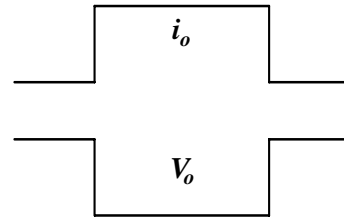
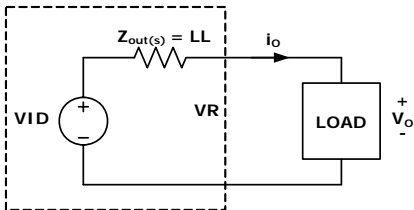

FIGURE 14. DESIRED LOAD TRANSIENT RESPONSE WAVEFORMS
FIGURE 20. VOLTAGE REGULATOR EQUIVALENT
Assuming the compensator design is correct, Figure 14 shows the expected load transient response waveforms if C_n is correctly selected. When the load current I_{core} has a square change, the output voltage V_{core} also has a square response.
Figure 14 shows the desired load transient response waveforms. Figure 20 shows the equivalent circuit of a voltage regulator (VR) with the droop function. A VR is equivalent to a voltage source (=VID) and output impedance $Z_{out}(s)$. If $Z_{out}(s)$ is equal to the load line slope LL, i.e. constant output impedance, in the entire frequency range, V_o will have square response when I_o has a square change.